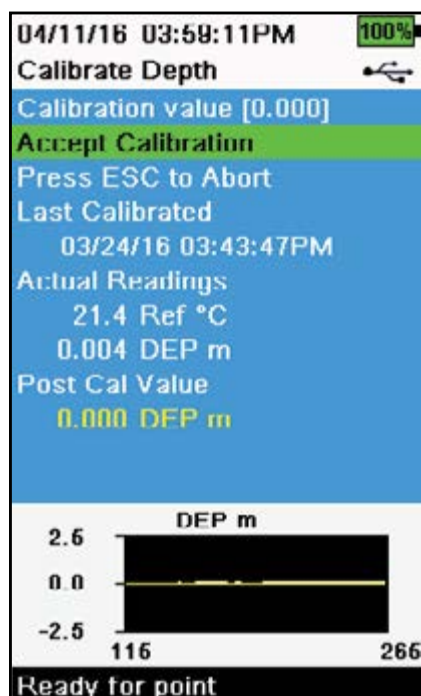

Figure 33 Calibrate Barometer
3. Select **Accept Calibration** (Figure 33). “Calibration successful!” will be displayed in the message area.